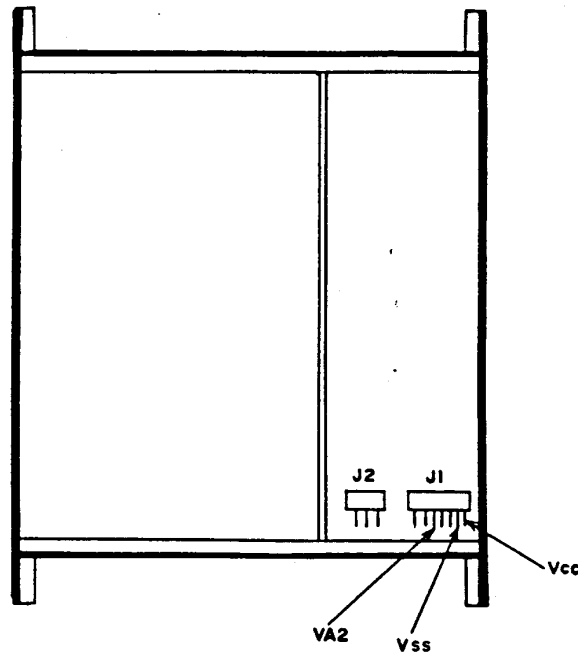

Figure 2. Test instrument - bottom view.
(3) Connect multimeter **INPUT HI** to Vcc (fig. 2) and **LO** to Vss (fig. 2). Press **POWER ON OFF** pushbutton to **ON**. If multimeter does not indicate between 5.00 and 5.10 V dc, perform **b** (1) below.
(4) Connect multimeter **INPUT HI** to VA2 (fig. 2). If multimeter does not indicate between 5.00 and 5.10 V dc, perform **b** (2) below.